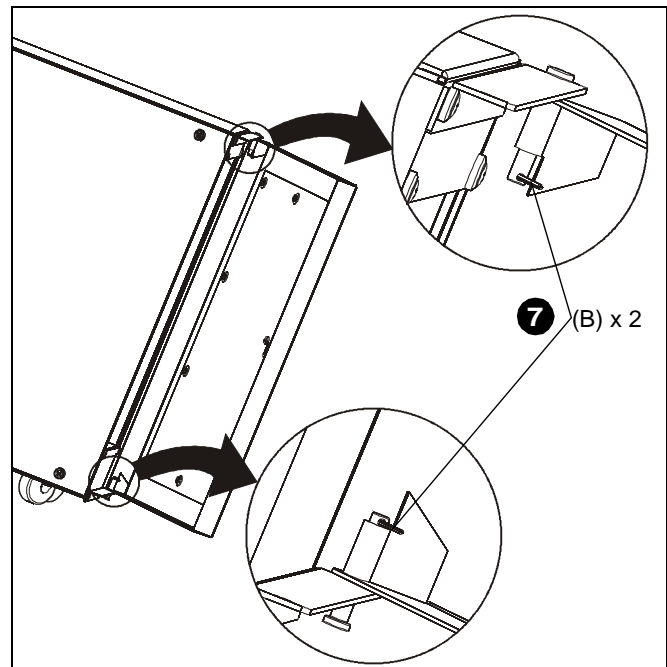

Figure 3
7. Insert two hair pins (B) into holes on clevis pins (C) to secure door pins to door. (See Figure 3)